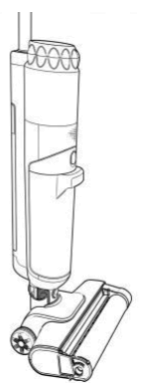

Fig. 11
2. Press the left side of the roller brush into position until it clicks into place (Fig. 11).